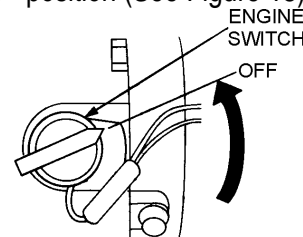

Figure 15. Engine O/OFF Switch (OFF)
2. After the engine cools, turn the engine ON/OFF switch to the "OFF" position (See Figure 15).